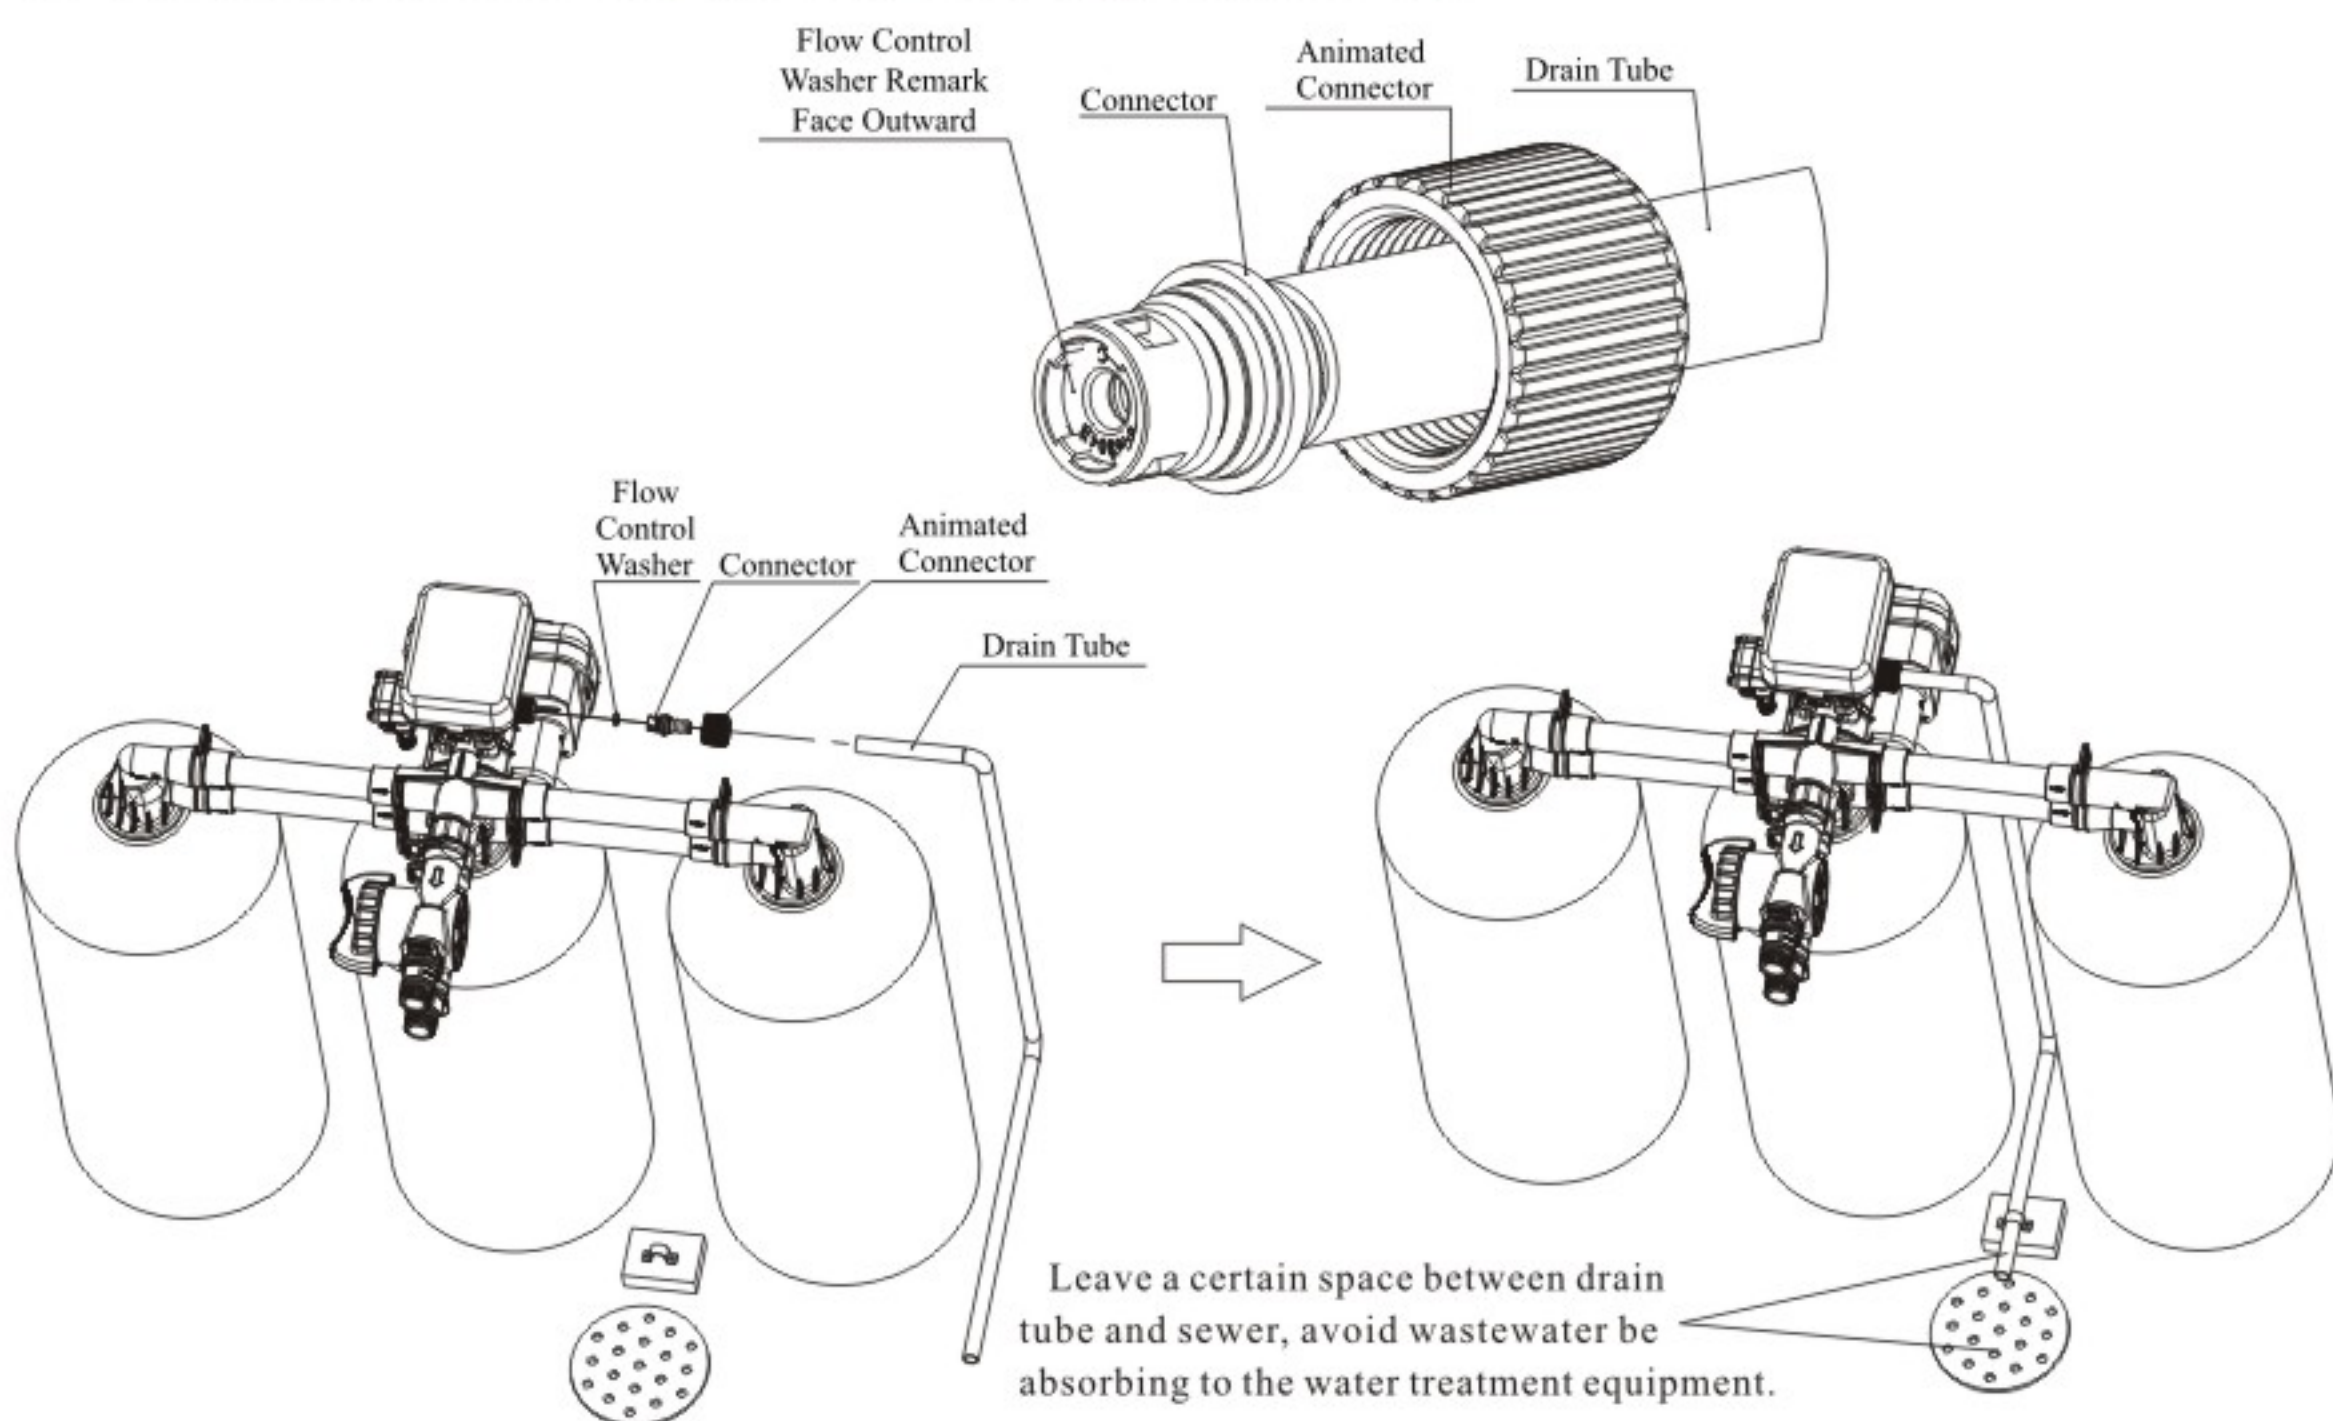

Figure 7
③ Install drain pipeline
- a. As the Figure 7 shows, put the drain line flow control into connector.
- d. Locate the drain hose well as the Figure 7 shows.
● Be sure not connect drain with sewer, and leave a certain space between them (Such as showed in the Figure 7.), avoid wastewater be absorbed to the water treatment equipment.